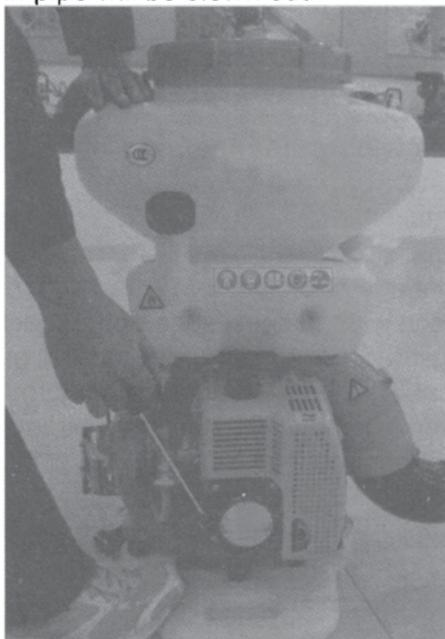

Fig 14
(4) Avert fire
(5) Starting engine (Fig 14)